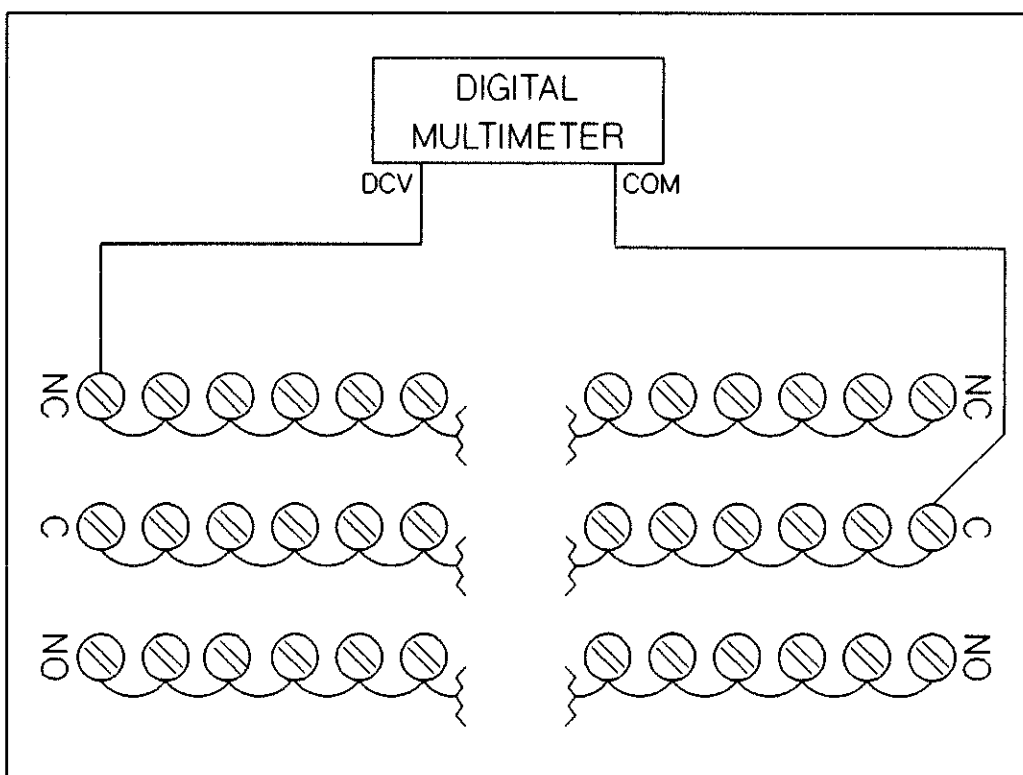

Figure 14-8 HP 44725A NC Channels Thermal Offset Test Set-Up
9. Refer to Figure 14-8 for the test set-up. Connect the multimeter DCV lead to the shorted NC (Normally Closed) lines of the test fixture. Connect the multimeter COM lead to the shorted C (Common) lines of the test fixture.